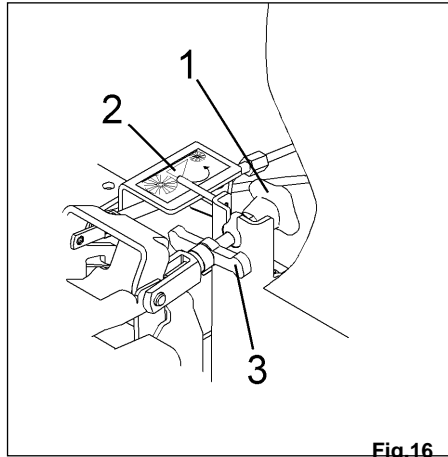

Fig.16
The sweeping track width can be adjusted at the star-shaped knob (Fig. 16/2) as follows:
- Loosen handle (Fig. 16/3)
- Turn star-shaped knob (Fig. 16/1) to the left = wider sweeping track to the right = smaller sweeping track
- Fix handle (Fig. 16/3)
- Broom adjustment sticker (Fig. 16/2)